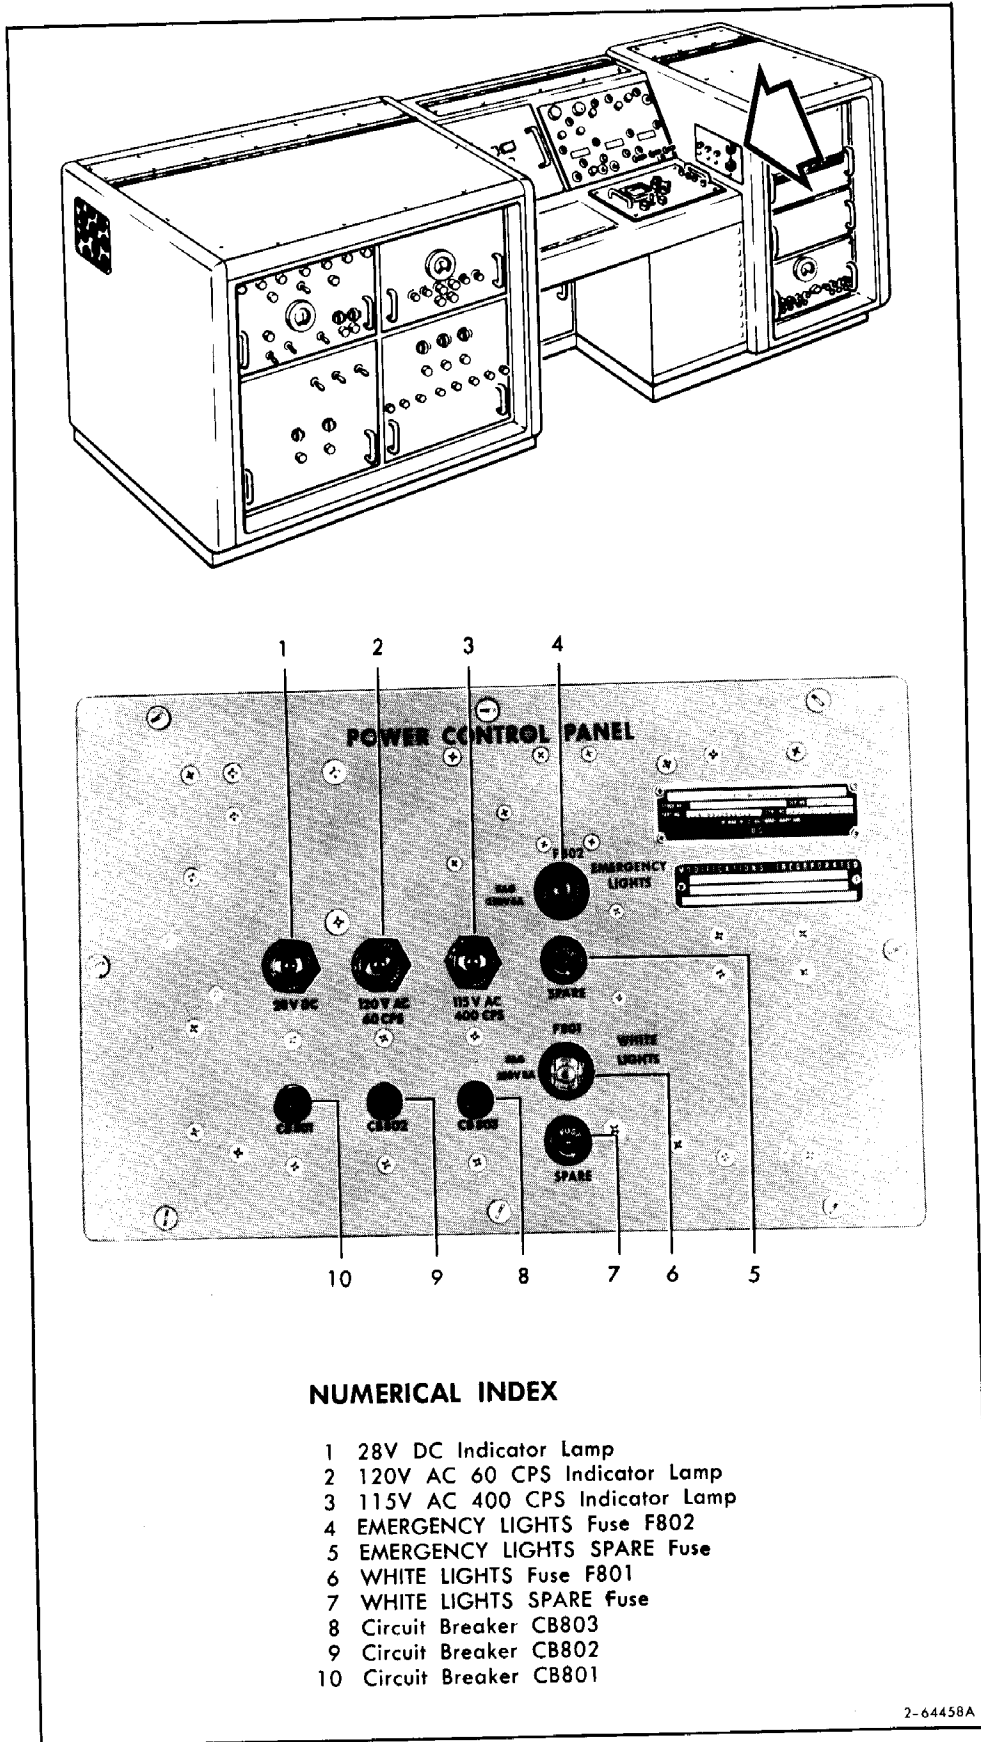

Figure 3-5. Power Control Unit
- c. 115V 400 POWER MONITORING indicator lamp (5) must be on.
- d. Place 28 VDC TESTER POWER switch (19) in on (up) position.
- e. 28 VDC TESTER POWER lamp (22) must go on.
- f. Place 120V 60 TESTER POWER switch (20) on (up) position.
- g. 120V 60 TESTER POWER indicator lamp (21) must go on.
- h. Place 115V 400 TESTER POWER switch (18) in on (up) position.
- i. 115V 400 TESTER POWER lamp (23) must go on.
- j. Depress circuit breaker CB801 (10, figure 3-5) on Power Control Panel of SRP Main Console.
- l. Depress circuit breaker CB802 (9, figure 3-5) on Power Control Panel.
- m. 120 VAC 60 CPS lamp (2) must go on.
- o. 115 VAC 400 CPS lamp (3) must go on.